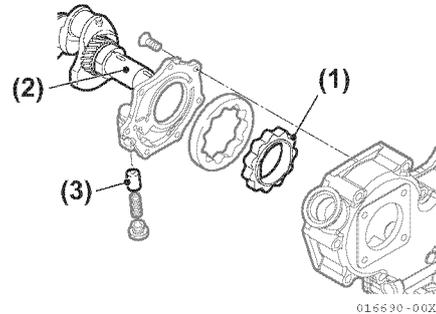

**Figure 8-12**
3. Remove bolts (**Figure 8-11, (1)**), (**Figure 8-12, (1)**). Remove oil inlet pipe (**Figure 8-11, (2)**), (**Figure 8-12, (2)**) and gasket (**Figure 8-11, (3)**), (**Figure 8-12, (3)**).